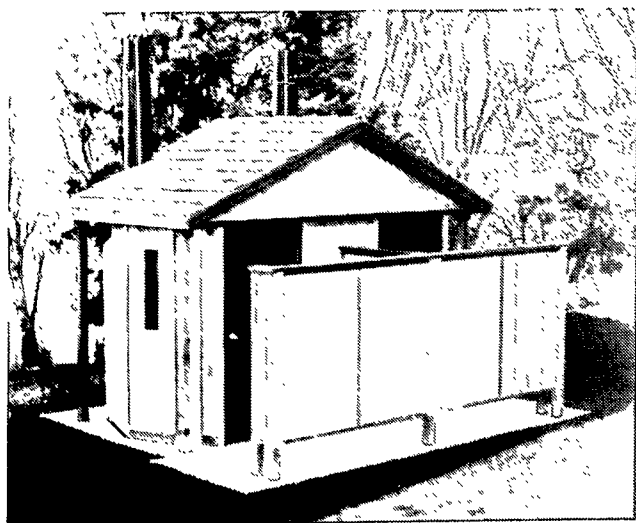

Figure 1. New traditional-style, two-unit accessible toilet.
To be fiscally responsible to the public's trust, every effort should be made at all levels of management to provide functional facilities at the lowest cost possible. Thus, serious consideration must be given to a new, low-cost (approximately \$16,850), two-unit vault toilet that was recently developed by Romtec, Inc. (fig. 1). It features, among other things, accessibility for persons with disabilities. Now that this "two-holer" is available, there is a trio of Sweet-Smelling Toilets (SST) offered for recreation sites by the same vendor.
The two-unit system can be ordered (1) with the privacy screen shown in figure 1, or (2) with a 5-ft roof overhang that covers the front doors, or (3) with both of these features, which are connectable to each other. *The indicated price does not include these features.*